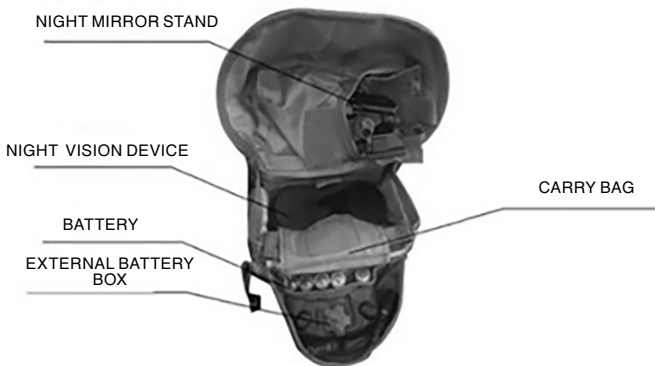

FIGURE 2.18. PLACE THE MAIN MACHINE INTO THE CARRYING BAG
(3) Remove the external battery box and take out the battery, remove the external cable and put it into the carrying bag;
(4) The position of the main unit components and spare accessories into the carrying bag is shown in Figure 2.18 below.